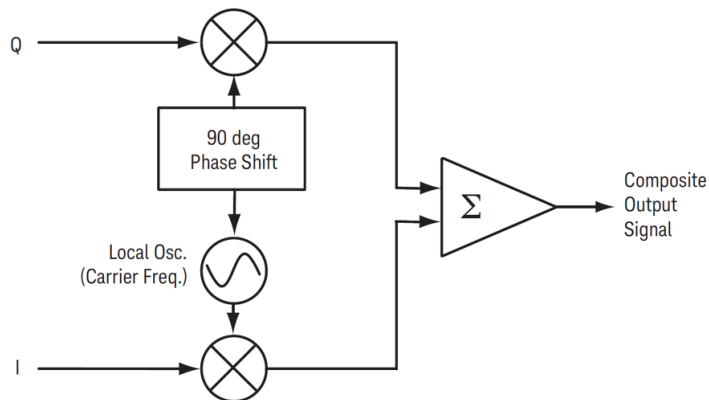

Figure 5.2: Baseband IQ modulation
In a digital transmitter, I and Q signals are mixed with the same local oscillator (LO) but with a 90-degree phase shifter placed in one of the LO paths, as shown in Figure 5.2. This 90-degree phase shift makes the I and Q signals orthogonal to each other so that they do not interfere with each other.